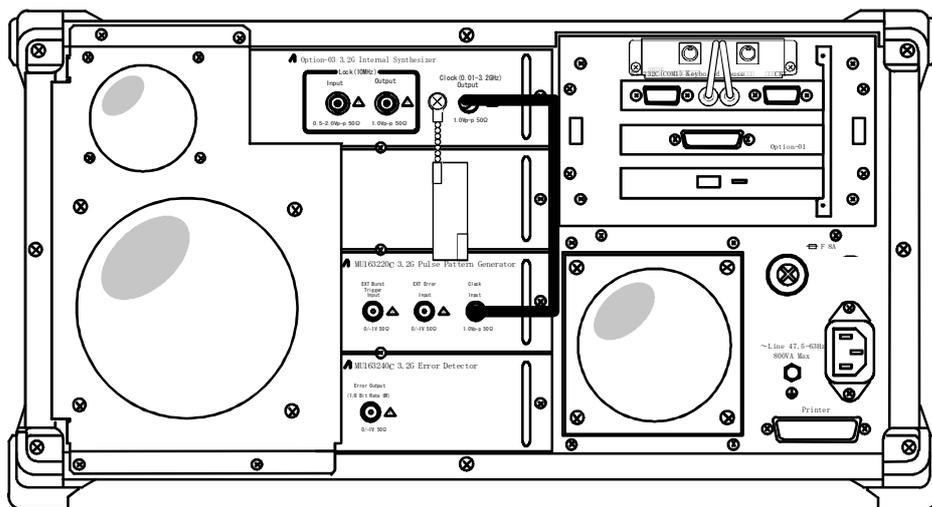

Fig. 7-4 Connecting the rear panel
2. Connect the rear panel as shown in Figure 7-4.